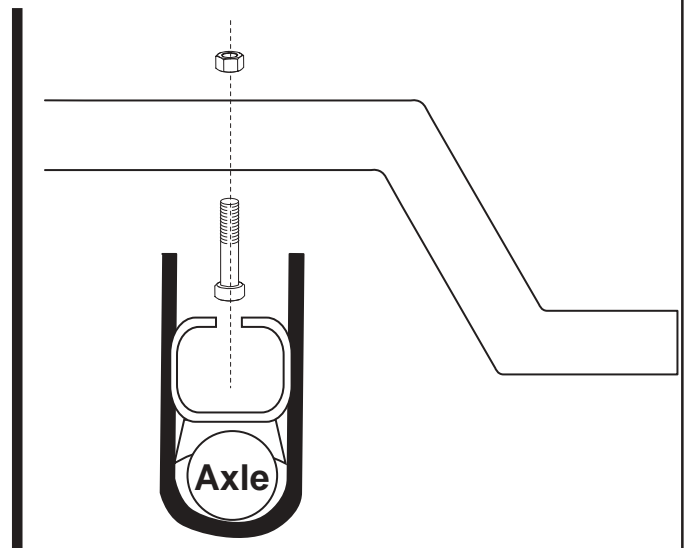

Figure 4
4. Install the centering pin into the beam assembly. Install the pin so that the head is facing down and the nut is at the top of the beam (Figure 4).